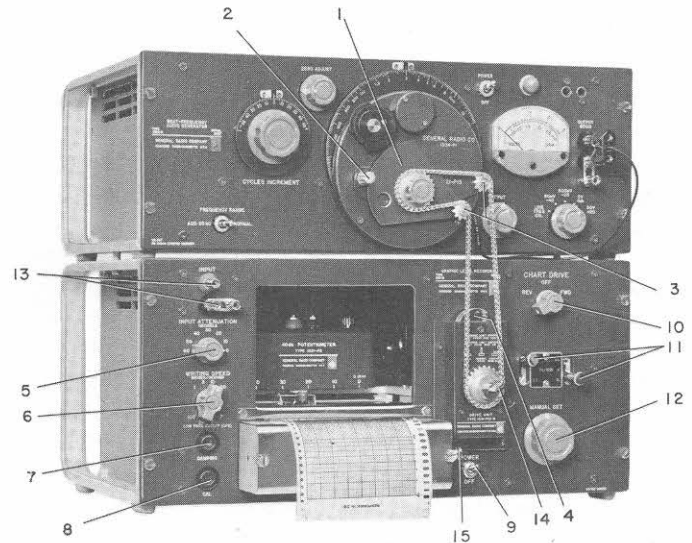
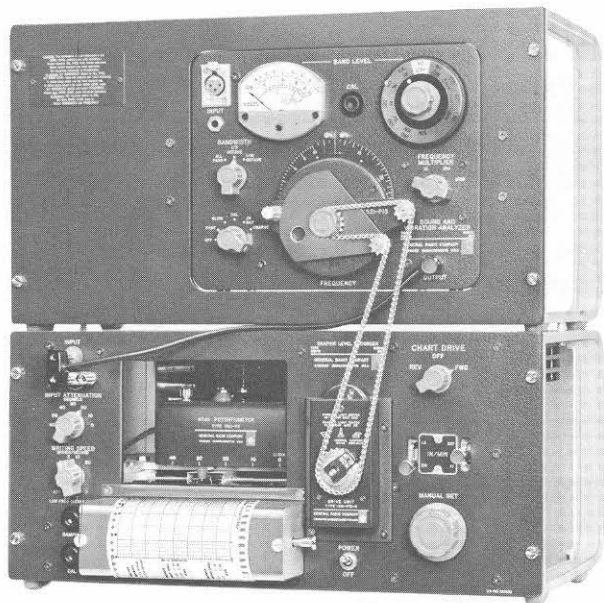

Figure 2.4. Recorder attached to Type 1304-B Beat-Frequency Audio Generator to form the Type 1350-A Generator-Recorder Assembly.
Figure 2.5. Type 1911-A Recording Sound and Vibration Analyzer consisting of the recorder attached to Type 1564-A Sound and Vibration Analyzer.
2.2.3 INSTALLATION OF LINK UNIT ON TYPE 1304-B BEAT-FREQUENCY AUDIO GENERATOR OR TYPE 1564-A SOUND AND VIBRATION ANALYZER. A Link Unit, including sprocket and chain, must be installed on the frequency dial of the driven instrument to couple it properly to the recorder. The Type 1521-P15 Link Unit (Figure 2.4) is designed to couple the recorder to the Type 1304-B Beat - Frequency Audio Generator (for the Type 1350-AR Generator-Recorder Assembly). The Link Unit also couples the recorder to the Type 1564-A Sound and Vibration Analyzer in the Type 1911-A Recording Sound and Vibration Analyzer (Figure 2.5).
- a. Place the Type 1304-B either above or below the recorder in a relay rack or on a bench (see Figure 2.4). The Type 1564-A should always be placed above
the recorder (see Figure 2.5).
d. Slip the chain over the sprockets of the Drive and Link Units. (See Figures 2.4 and 2.5.)
e. Tighten up any slack in the chain by first loosening the screw (2, Figure 2.4) and then swinging the idler sprocket (3) to take up the slack in the chain. Tighten the screw (2).
**2.4 STACKING.** When two or more bench instruments are to be stacked (see Figures 2.4 and 2.5), use the available hardware set (refer to parts list) and proceed as follows:
b. Place a 15/32-inch spacer (A) over each of the four holes on the top of the base end frames and line up the holes in the bottom of the end frames on the top instrument with the spacers.
c. Insert a No. 10, 1-inch screw (B) through each of the four holes in the bottom of the end frame on the top instrument and see that the screw comes through the top of the bottom end frame.
d. Tighten the assembly by securing a No. 10 locking nut (C) on each of the four mounting screws.